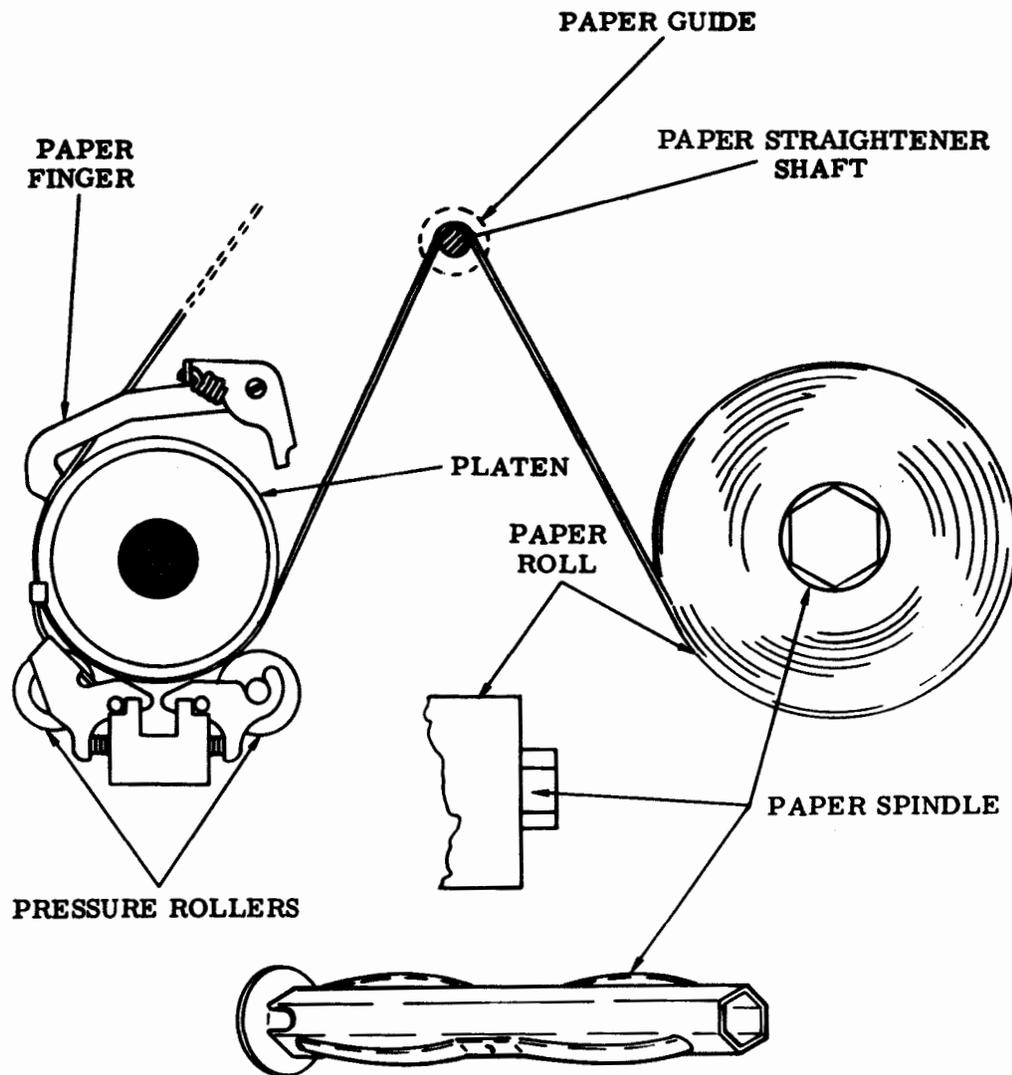

Figure 19 - Paper Routing Assembly
4.25 Insert the paper spindle into the paper roll and install the paper roll into the spindle blocks. Route the paper over the paper straightener between the two paper guides, refer to Figure 19. Lift the paper finger on the platen and insert the paper between the platen and pressure rollers. Turning the handwheel, move the paper through the platen assembly leaving 1 foot of loose paper. Lower the paper fingers on the platen assembly and hold the paper toward the front of the typing unit, and close the rear lid. Close the front lid, and position the paper between the window and the paper guide (be sure that the cover and lids are latched).